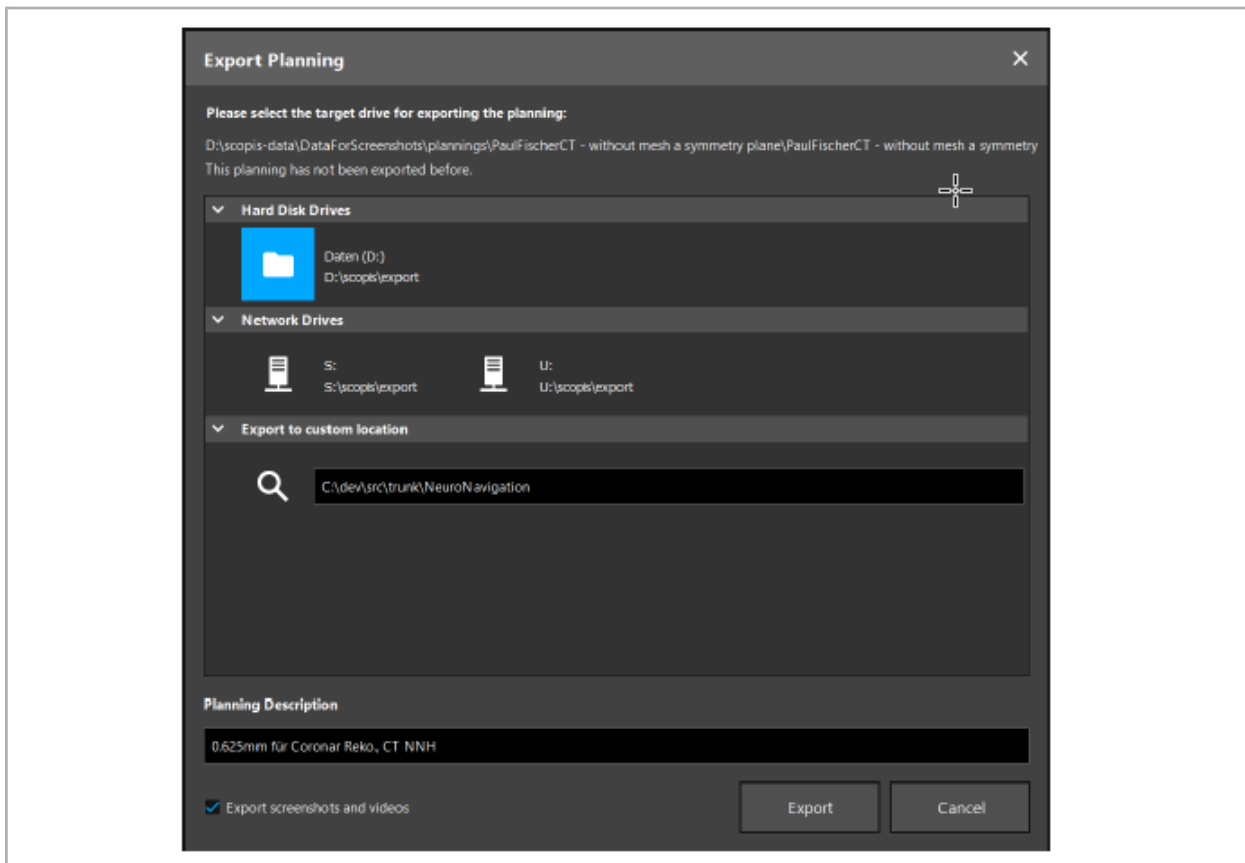

Figure 33 – Export Planning
2. Choose the target drive desired for exporting (Figure 33).